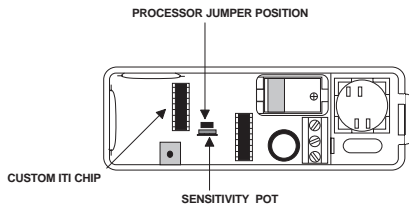

Figure 10. Processor Jumper Position
- Position the jumper on the two pins nearest to the custom ITI chip as shown in Figure 10.